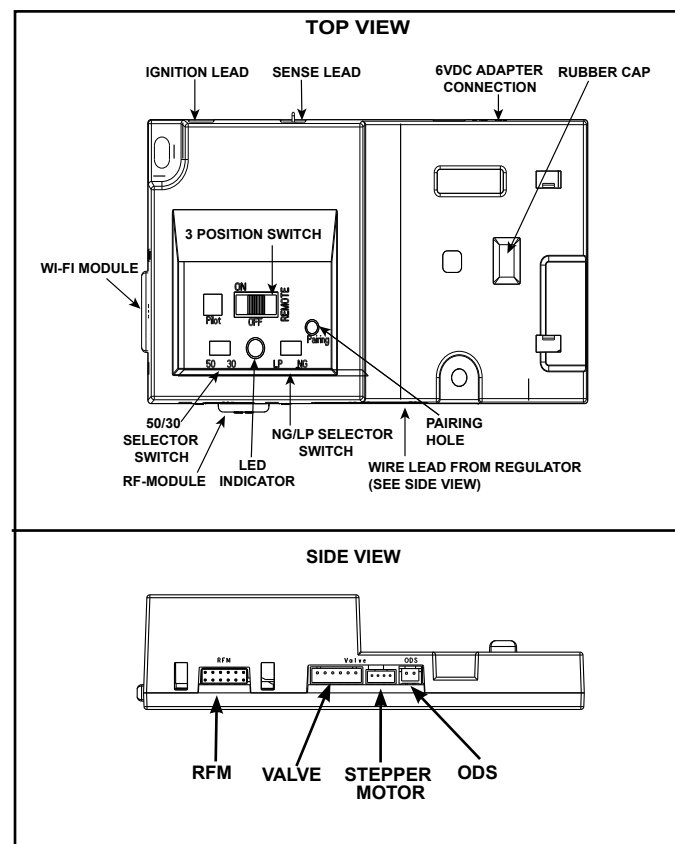

Figure 3.7 IFT-ECM 2.0
1. The Electronic Control Module (IFT2-ECM) has a three-position ON/OFF/REMOTE selector switch that must be set for proper operation. See Figure 3.7. When changing switch positions, it is important to pause in each position for 1-2 seconds.